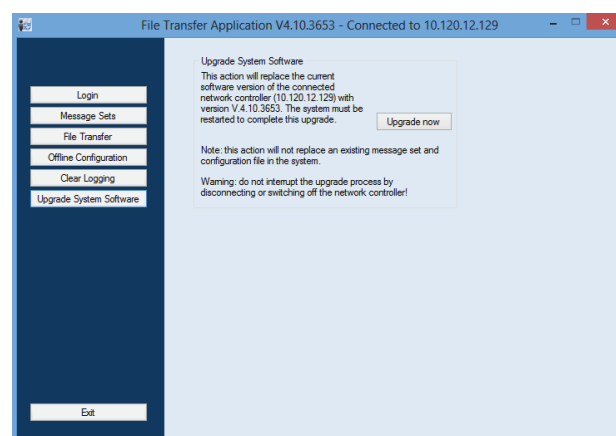

figure 37.5: File transfer screen
- 1 Click the *Upgrade system software* button. A screen similar to the one in figure 37.5 appears.